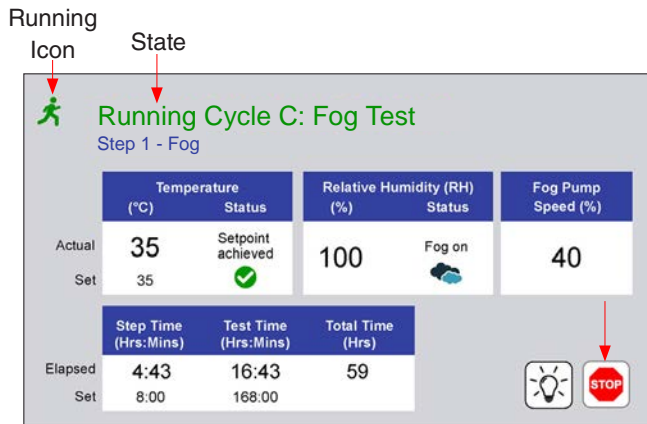
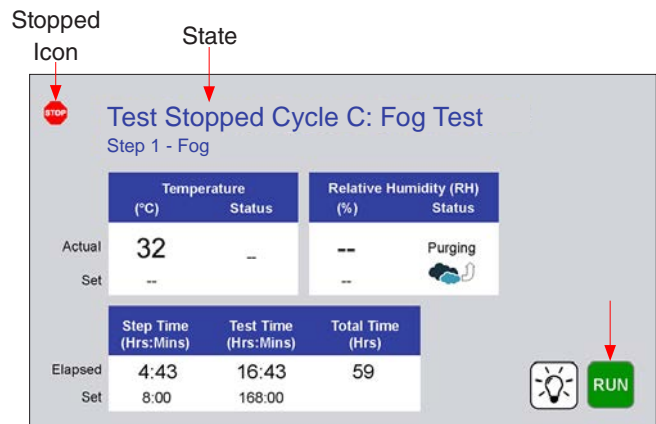

Figure 9.2e: Status icon and state when test running.
Figure 9.2f: Status icon and state when test stopped.
- A colored icon and state at the top of the screen indicate the overall status of the test (Figure 9.2e, Figure 9.2f).